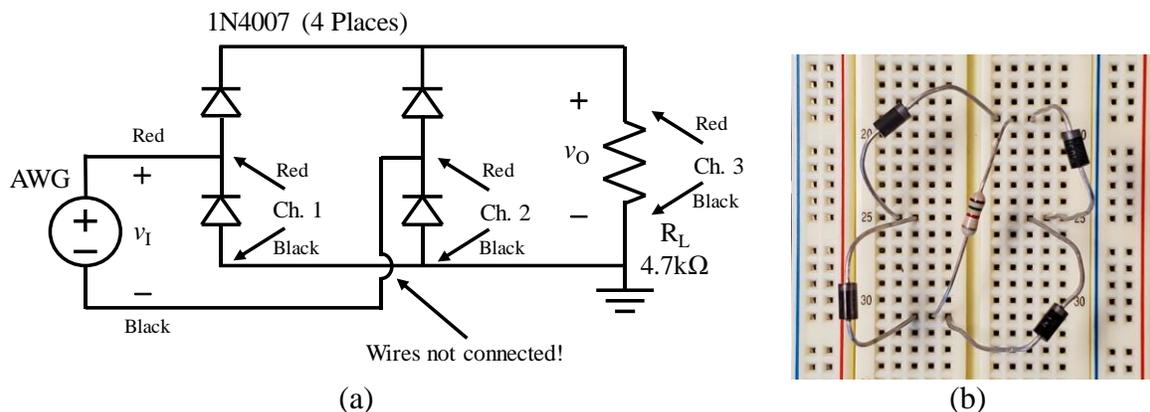

Fig. 5. Full-wave rectifier circuit (a) schematic showing oscilloscope connections and (b) suggested breadboard layout.
3. Perform measurements of the full-wave rectifier circuit shown in Fig. 5 as follows.
- a. Construct the circuit shown in Fig. 5.
- a. The full-wave rectifier in Fig. 5 is modified by connecting a 47  $\mu\text{F}$  capacitor in parallel with the load resistor.